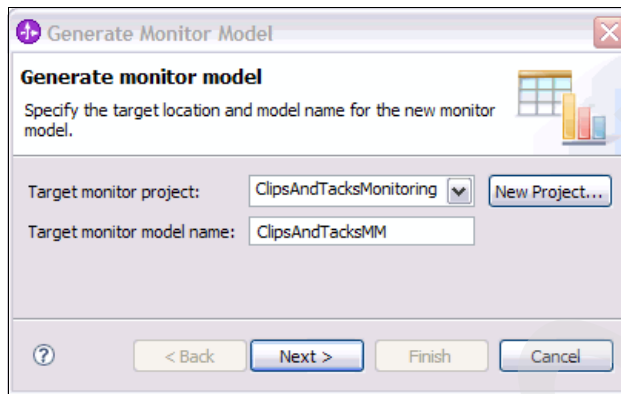

Figure 5-20 Selecting a target monitor model name
4. In the Generate Monitor Model window (Figure 5-20), for Target monitor model name, type `ClipsAndTacksMM` and click **Next**.